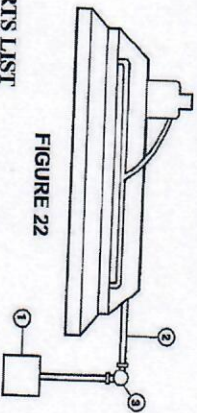

FIGURE 22
1. Determine the best location for the manual pull station box. The location must be accessible with a maximum of seven (7) additional corner pulleys and a maximum of twenty-nine (29) additional (29) of conduit. The manual pull station is usually located opposite the extinguisher kit. Adjust the extinguisher kit mounting accordingly — on the right or left side of the range hood (See Figure 22).